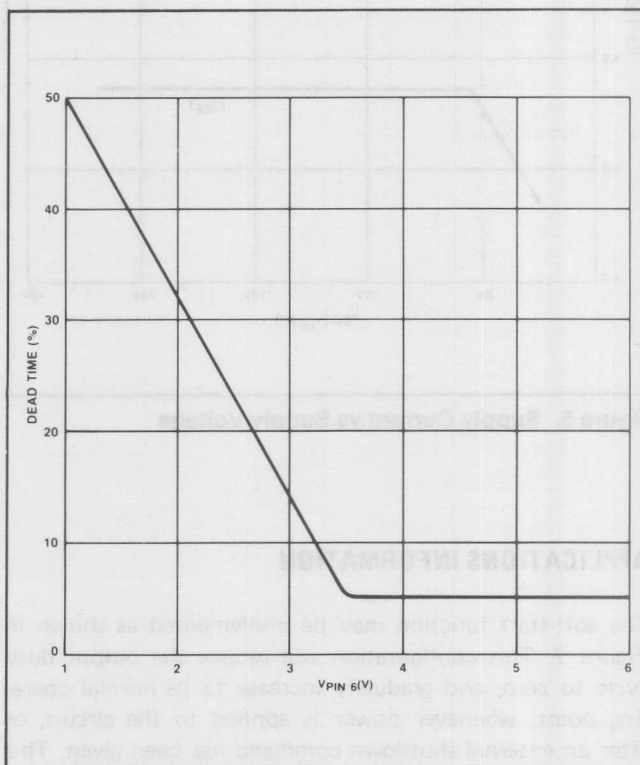

Figure 4. Dead Time vs Dead Time Adjustment Voltage
**Dead-time Control, Pin 6** — Figure 4 shows output dead-time as a function of  $V_{PIN 6}$ . The maximum duty cycle of each output is also controlled by the dead-time, and may be determined by the following expression: